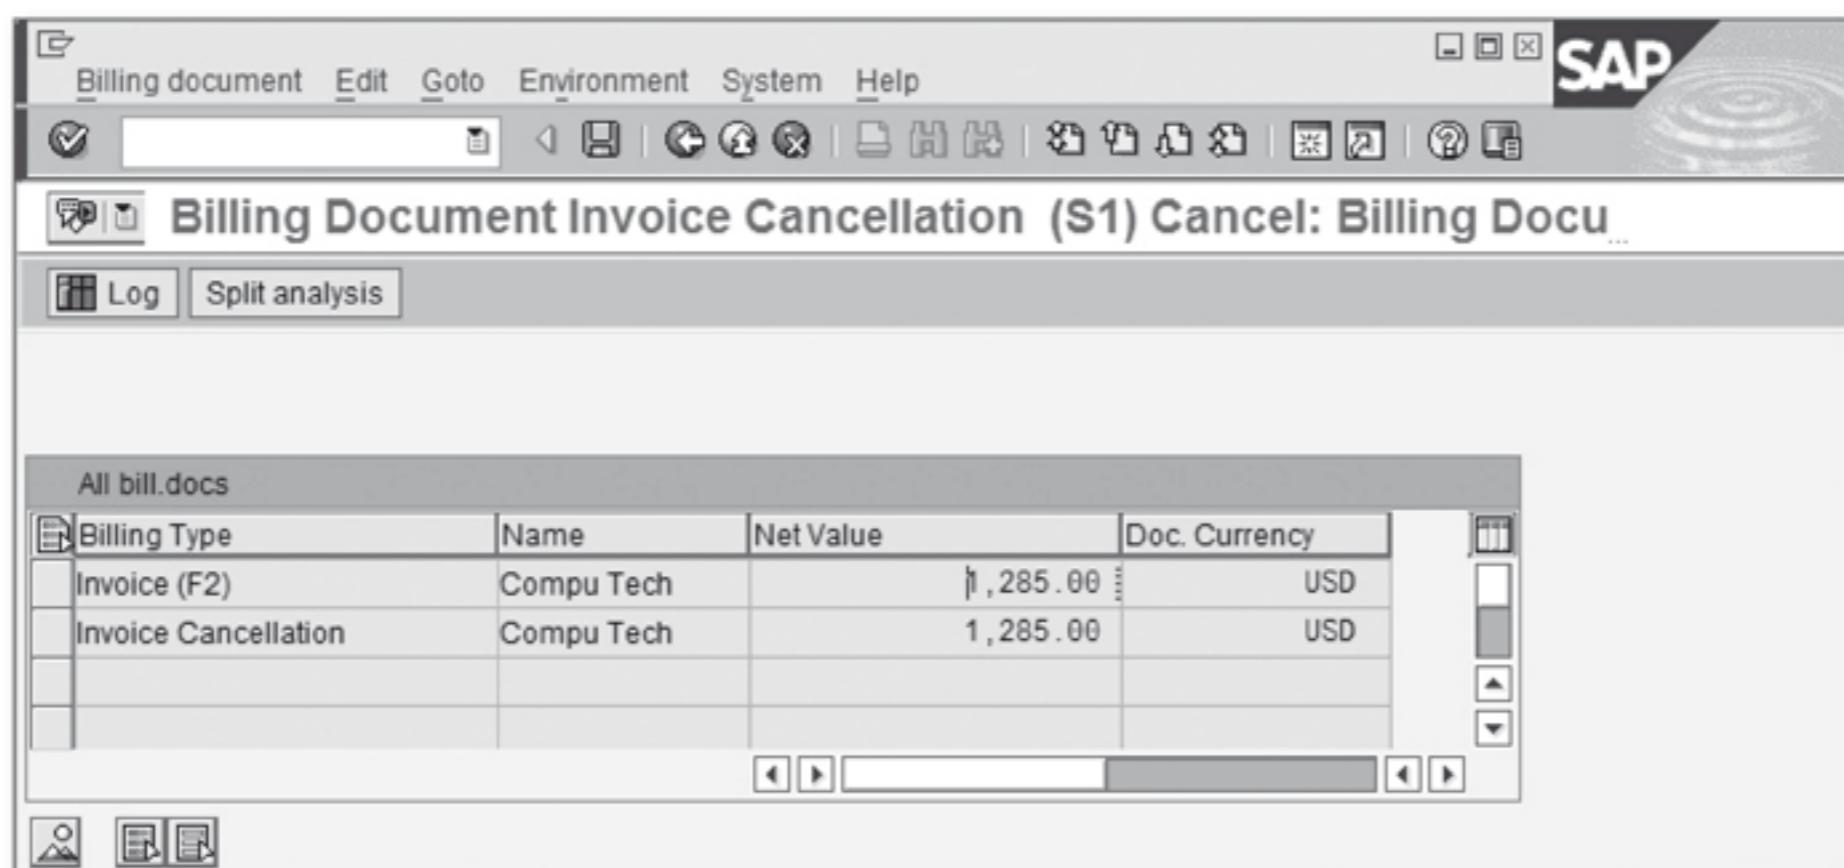

Figure 5.26 Billing Document Cancellation Review Screen
2. After you've accepted your entry and pressed **Enter**, you'll get to an overview screen containing the original billing document as well as the new cancellation document to be created. This screen will allow you to review differences between the two documents before you post the cancellation (see Figure 5.26).